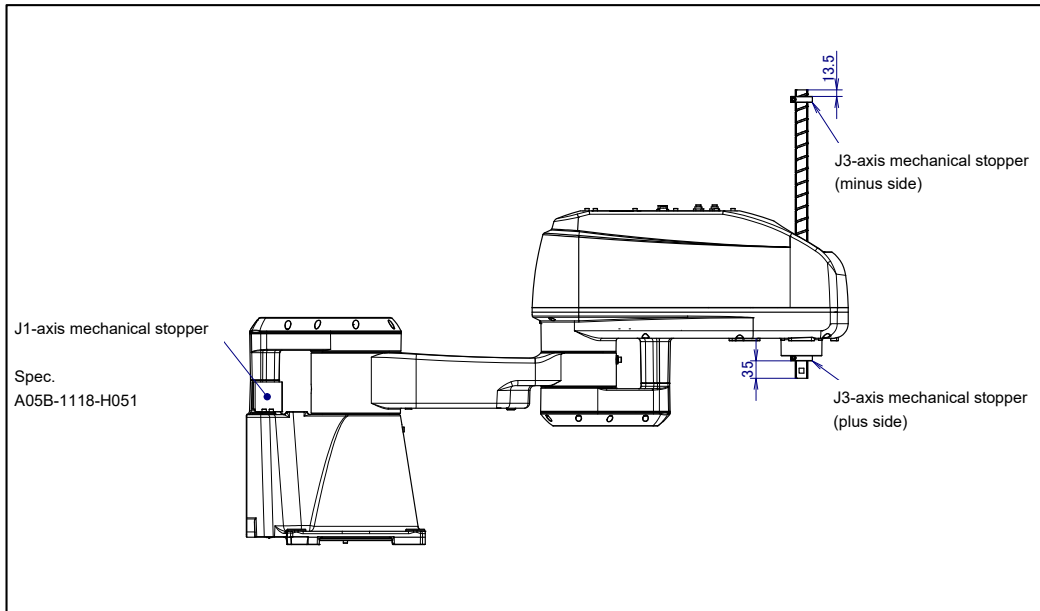

Fig. 7.2.4 (a) Position of mechanical stopper
- Check that there is no evidence of a collision on the fixed mechanical stopper and the adjustable mechanical stopper. If there is evidence of a collision on the stopper, replace the parts. When installing the J3-axis mechanical stopper, refer to Fig. 7.2.4 (a).